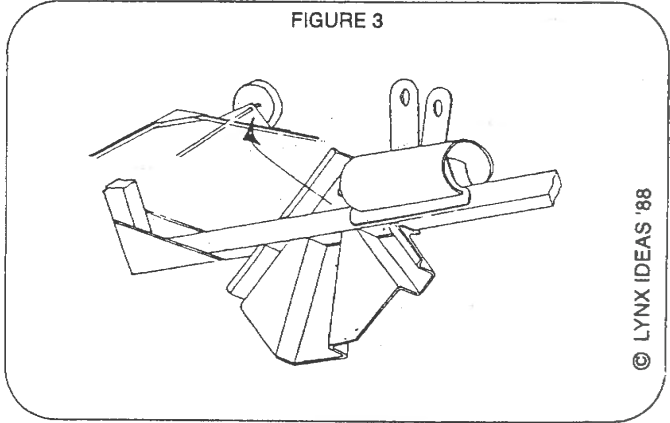

FIGURE 3
4. JOINTER can be used to mark out and mount axle hangers. First, place card triangle into JOINTER and mark position of hole with a pencil using the hole in JOINTER. After punching the hole, glue the hypotenuse of the card triangle and place into JOINTER. Locate structure in JOINTER, (fig 3).